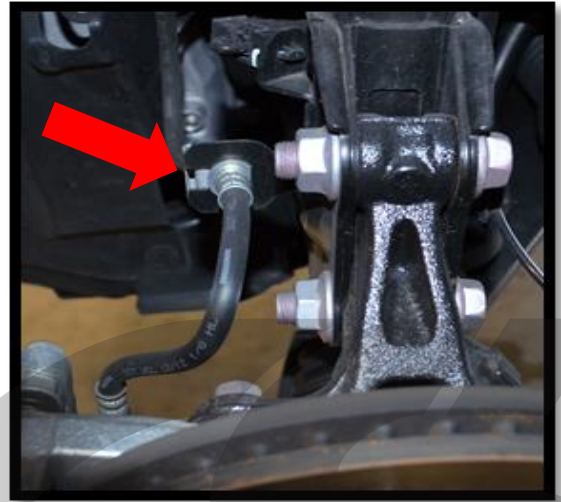

Figure 2d
- c) Free the brake line by removing the clip from the brake line mount (Figure 2d).
- c) **Free the brake line** using pliers or a flat head screw driver to remove the clip from the brake line mount (red arrow in Figure 2d).